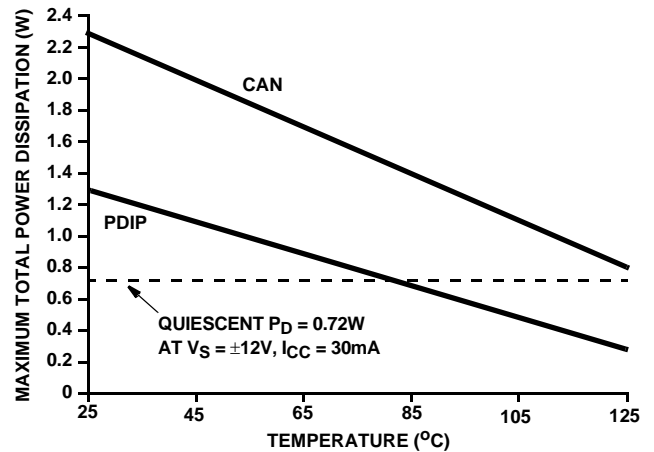

FIGURE 5. MAXIMUM POWER DISSIPATION vs TEMPERATURE
1. Maximum power dissipation, including load conditions, must be designed to maintain the maximum junction temperature below 175°C for the metal can package, and below 150°C for the plastic packages (See Figure 5).
3. The maximum operating temperature may have to be derated depending on the output load condition. See Figure 5 for more information.
Figure 5 is based on: